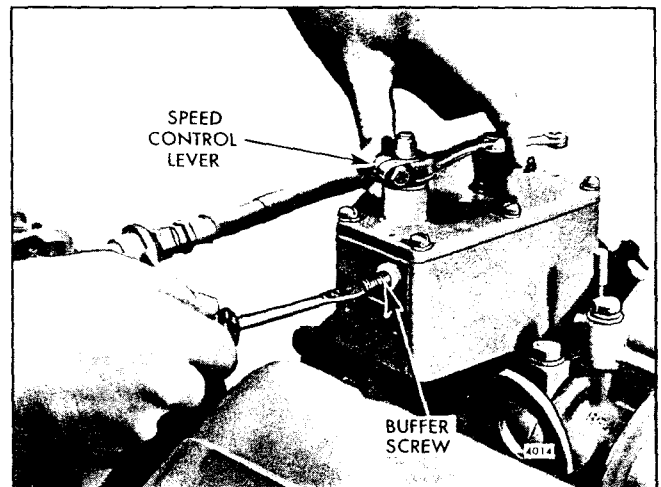

Fig. 7 - Adjusting Buffer Screw
1. With the engine running at normal operating temperature, turn the buffer screw in (Fig. 7) so it contacts the differential lever as lightly as possible and still eliminates the engine roll.